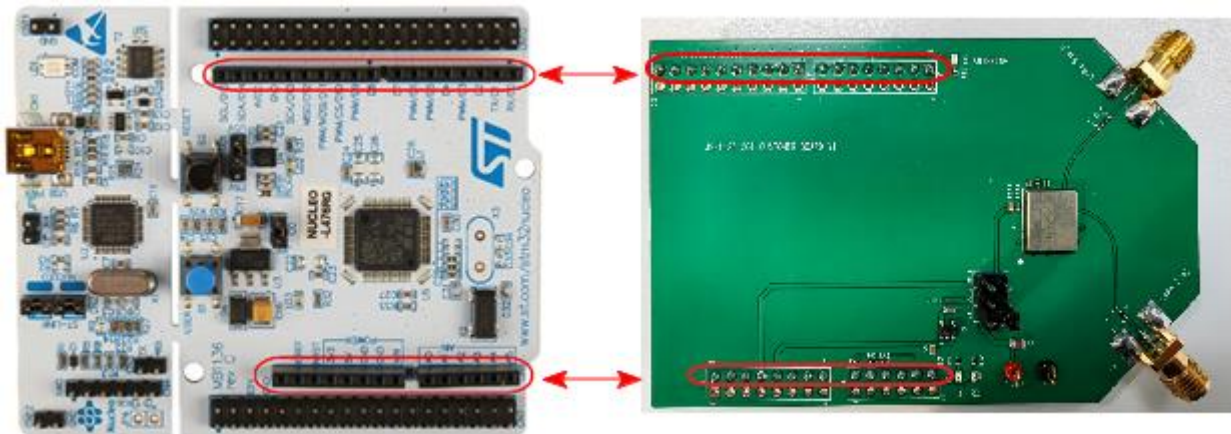

Figure 6: Connection between EVB and NUCLEO-L476RG platform
STEP1: Connect the EVB to the NUCLEO-L476RG. Make sure the pins are connected in the red areas on the EVB and platform as showed in the figure 6.